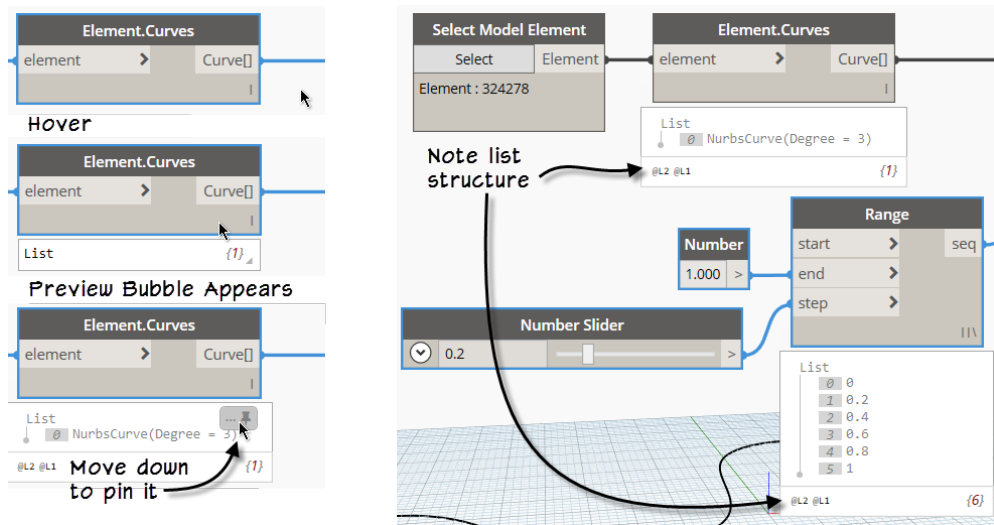

Figure 36
17. Repeat for the **Range** node (see Figure 36).